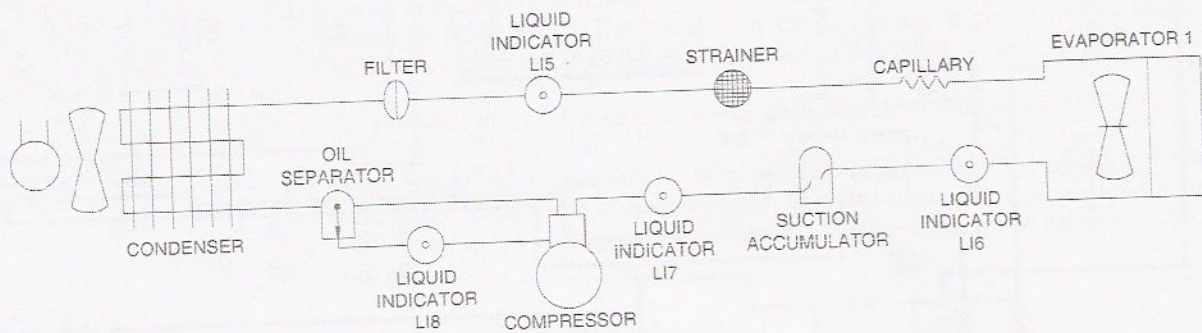
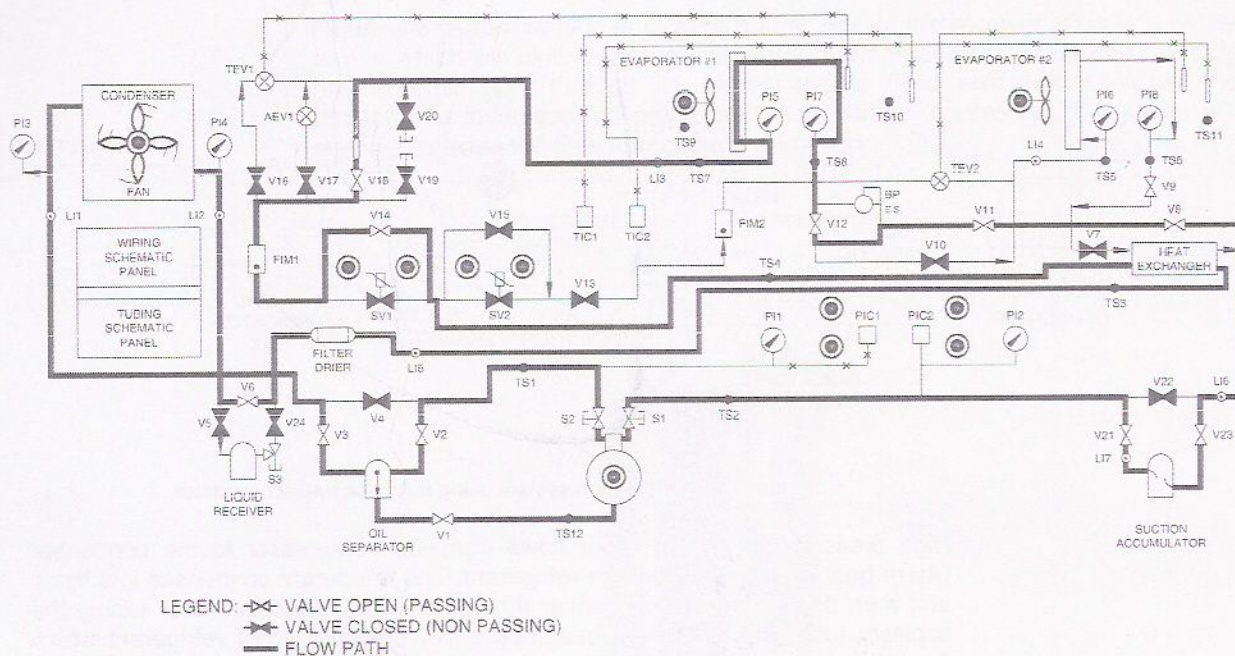

Figure 2-7. Refrigeration system using a suction line accumulator.
Figure 2-8. Valve configuration.
A schematic diagram of a simple refrigeration system using a suction line accumulator is shown in Figure 2-7. Each device in this schematic is appropriately labeled.
The manual valves which must be opened or closed to arrange this system are not indicated on the schematic of Figure 2-7. However, they are indicated on the schematic panel (tubing section) of the trainer shown in Figure 2-8. The valves that are darkened are closed.
1. Open and close the manual valves to arrange the refrigeration system as shown in Figure 2-7. The schematic panel (tubing section) of the trainer shown in Figure 2-8 may be used to assist at this point.